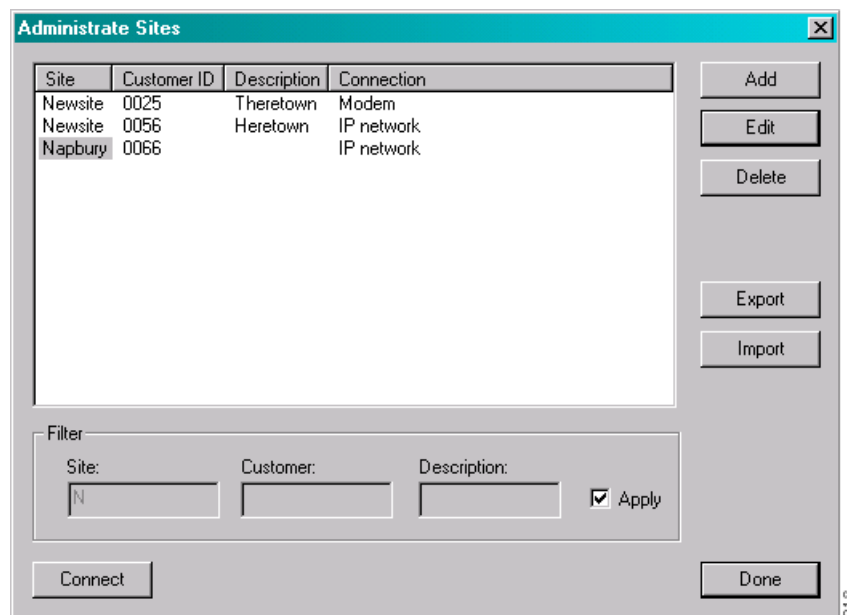

Figure 18. Filtered view of remote connected Newsite sites.
- 2 Activate the filter by marking the "Apply" check box. Only sites matching the entered filter criterias appear. In the example in figure 18, only sites starting with an "N" appear.